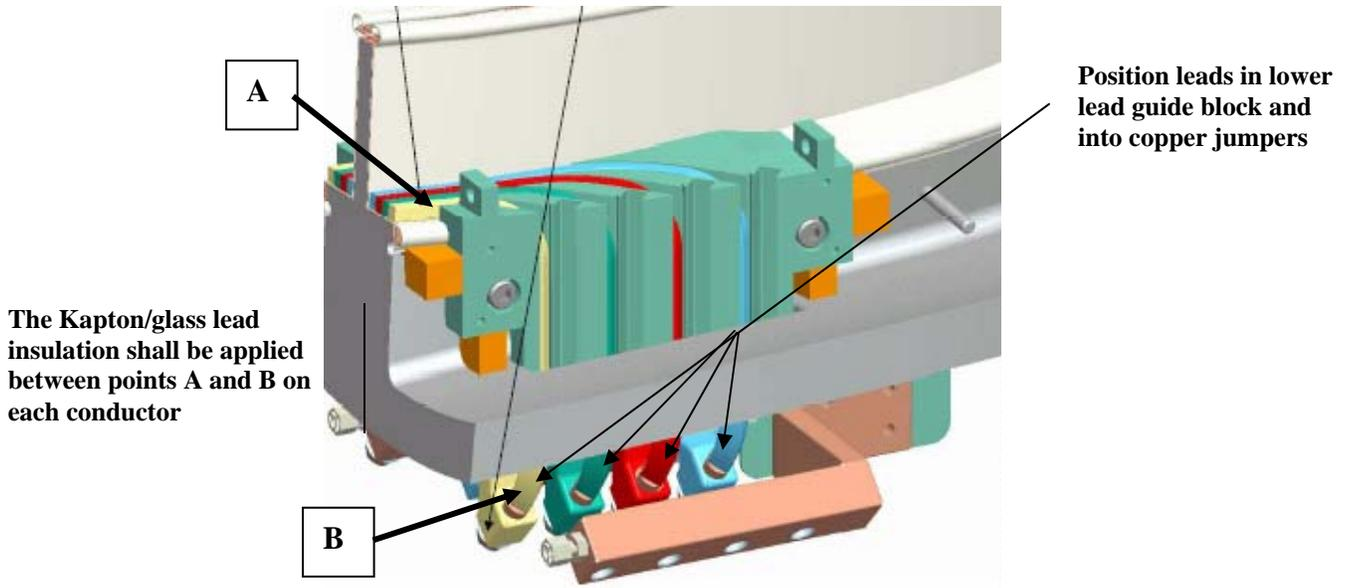

Figure 22- Positioning leads
6.14.1 Apply by hand (1) half-lapped layer of composite insulation [0.004 in. thick glass tape/ (2) layers of 0.0065(HN) Kapton tape w/ adhesive back] over each of the individual conductors starting from the point that the conductors separate to the conductor connector. [Figure 22- Positioning leads
6.14.2 Position the first layer of (4) conductors into the conductor slots in the lower lead guide block. The conductors shall be placed in alternating slots. Care must be taken during this operation, to minimize any damage to the over wrap insulation. Mate the copper connectors with the female jumpers. Secure connectors in-place but do not torque at this time. [Figure 22- Positioning leads]